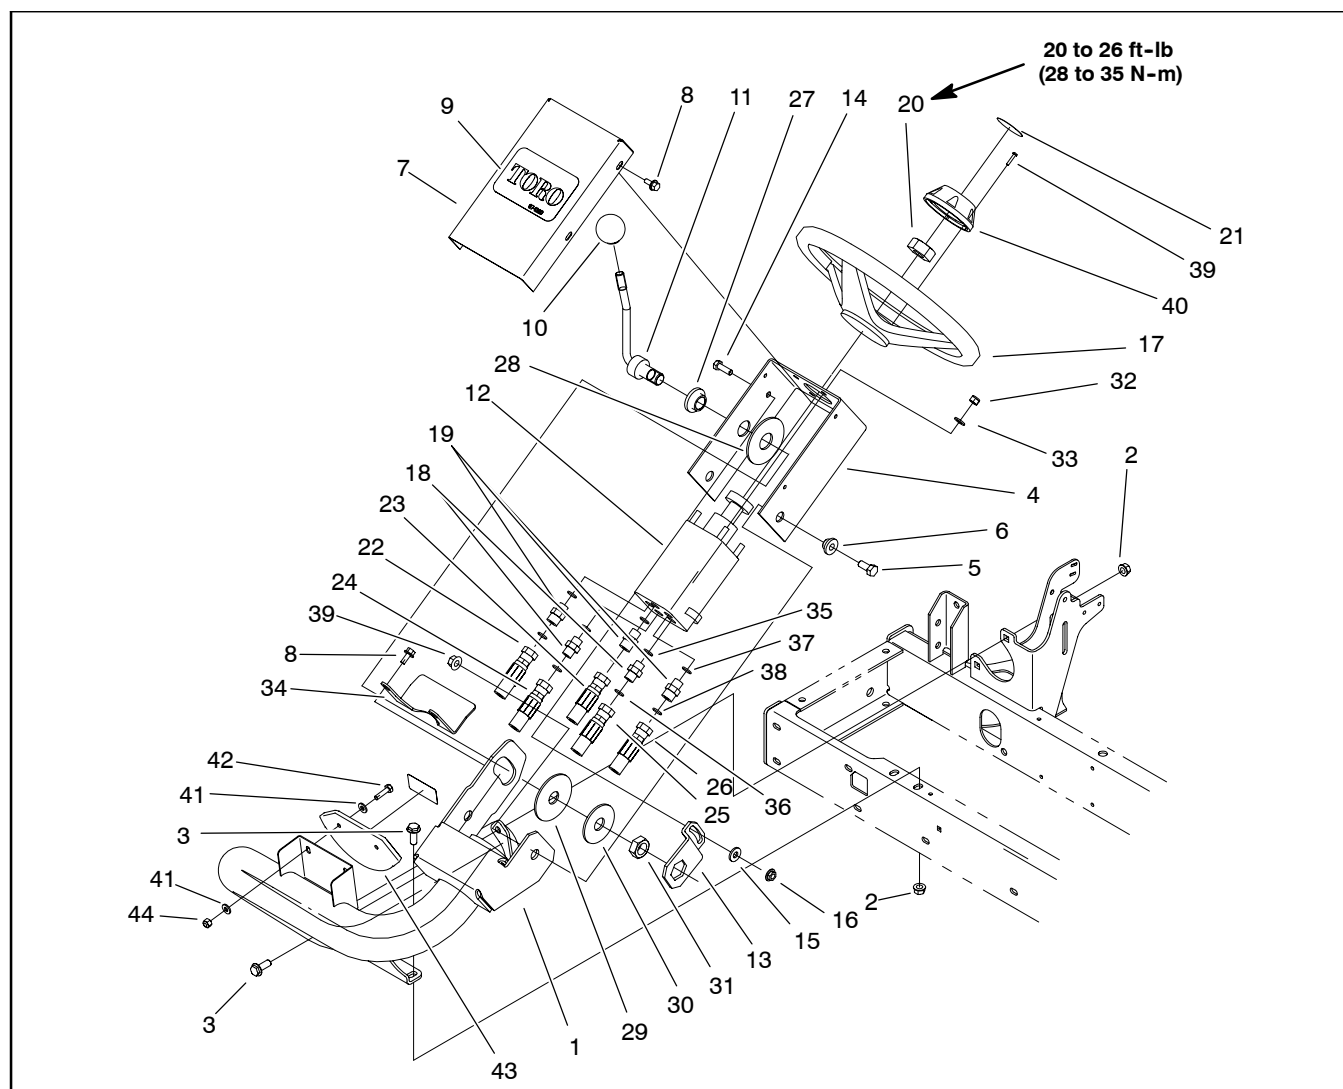

Figure 15
7. Remove and replace parts as necessary to repair steering column using Figure 15 as a guide.
1. Make sure lever and friction discs are properly assembled to the steering control valve bracket using Figures 15 and 16 as a guide.